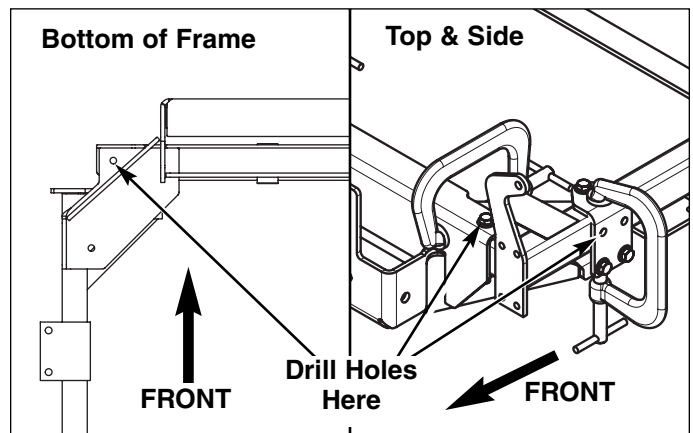

Figure 8. Drill 3/8" Holes
- Snugly clamp the top of bracket and the bottom of the new front end to the frame rail using (2) more C-clamps. Tighten the bottom bracket bolts. Refer to Figure 8. Using the front top hole as a guide drill a 3/8" hole through the frame and install 3/8-16 X 2-1/2" bolts and 3/8-16 flange nuts on both sides of the frame. Tighten the bracket hardware (Do Not Exceeds 35 ft lbs of Torque) and remove clamps that were holding it.